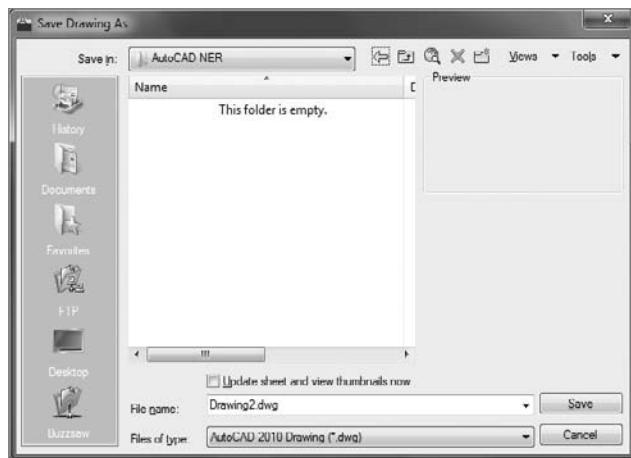

FIGURE 3.22 The Save Drawing As dialog box
1. In AutoCAD, click the Save button on the Quick Access toolbar or choose Save from the Application menu. Because you haven't named this file yet, the Save Drawing As dialog box opens, as shown in Figure 3.22.